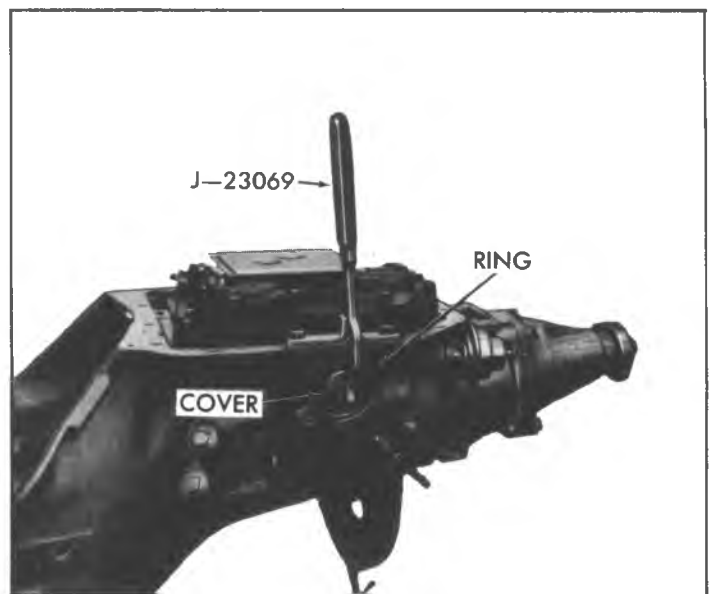

Fig. 49N--Removing 1-2 Accumulator Piston Cover Retaining Ring
25. Install tool J-23069 to compress 1-2 accumulator piston cover and remove retaining ring (fig. 49N).